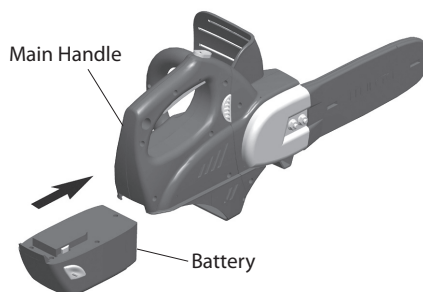

Figure 7 - Assemble Battery onto Main Handle
3. Slide battery onto main handle until release buttons “snap” together (see Figure 7).